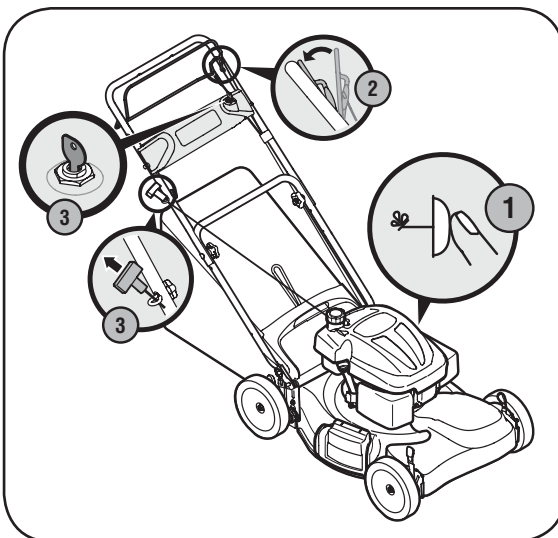

Figure 4-3 Models with primer.
1. Push the primer 3 times. Wait about two seconds between each push. See Figure 4-3. In temperature below 10° C (50° F), prime 5 times. After the engine is warmed up, one prime may be needed for all temperatures.
Pull the starter grip lightly until resistance is felt, then pull rapidly to overcome compression, prevent kickback and start engine. Repeat if necessary. See Figure 4-3. *Do not allow the starter grip to snap back against the engine. Return it gently to prevent damage to the starter.*
Turn ignition key to the right to start the engine. Release the key after the engine starts. See Figure 4-3.